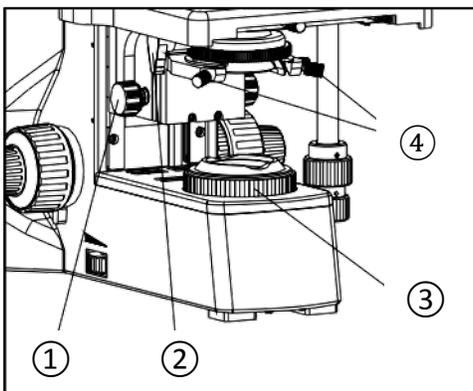

Fig. 19
Centering the Condenser - (Fig. 19 & 20)
Rotate the condenser knob ① to raise it to the highest position (Fig. 19).